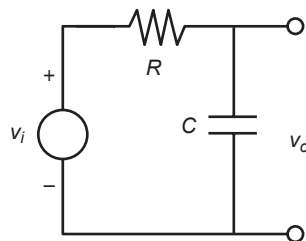

Figure P26
26. The circuit shown in Figure P26 consists of a resistor and a capacitor and is thus called an *RC* circuit. If we apply a sinusoidal voltage  $v_i$ , called the input voltage, to the circuit as shown, then eventually the output voltage  $v_o$  will be sinusoidal also, with the same frequency but with a different amplitude and shifted in time relative to the input voltage. Specifically, if  $v_i = A_i \sin \omega t$ , then  $v_o = A_o \sin(\omega t + \phi)$ . The frequency–response plot is a plot of  $A_o/A_i$  versus frequency  $\omega$ . It is usually plotted on logarithmic axes.